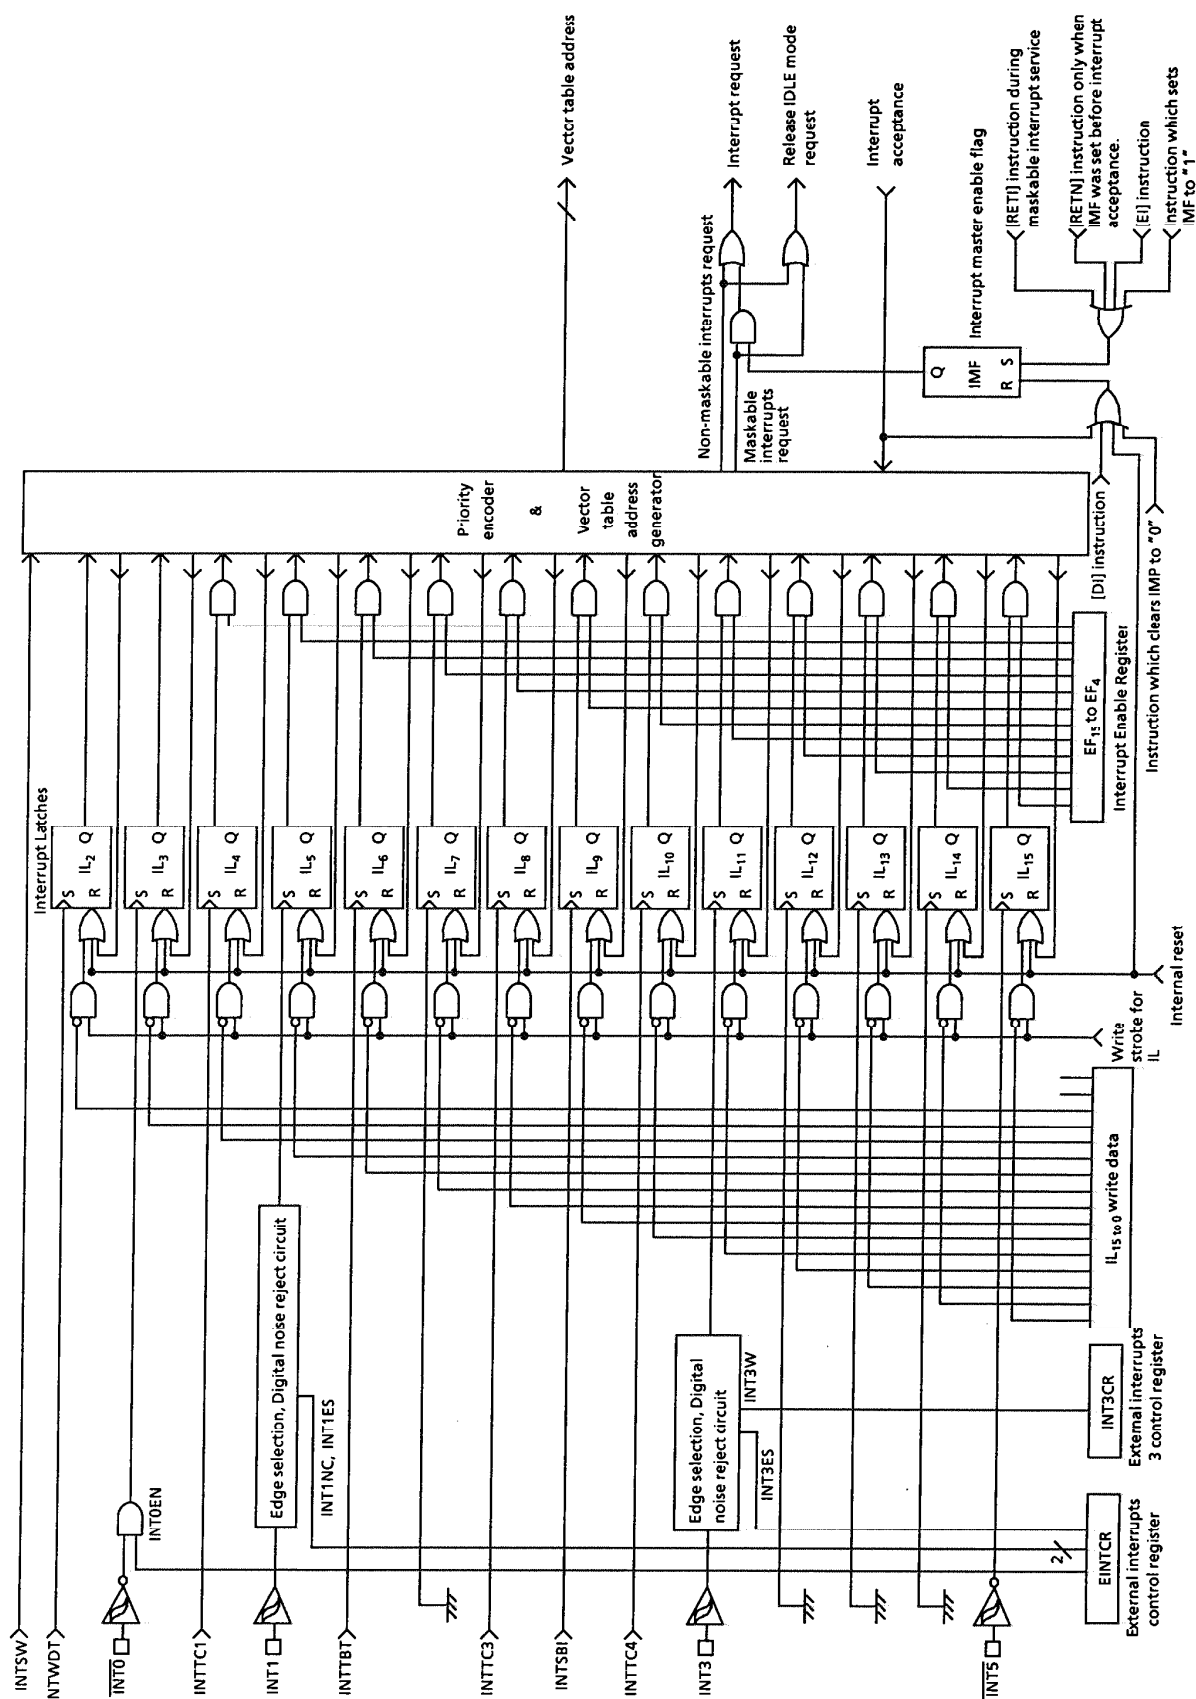

Figure 1-20. Interrupt controller block diagram
Interrupt latches (IL) that hold the interrupt requests are provided for interrupt sources. Each interrupt vector is independent. The interrupt latch is set to "1" when an interrupt request is generated and requests the CPU to accept the interrupt. The acceptance of maskable interrupts can be selectively enabled and disabled by the program using the interrupt master enable flag (IMF) and the individual interrupt enable flags (EF). When two or more interrupts are generated simultaneously, the interrupt is accepted in the highest priority order as determined by the hardware. Figure 1-20 shows the interrupt controller.